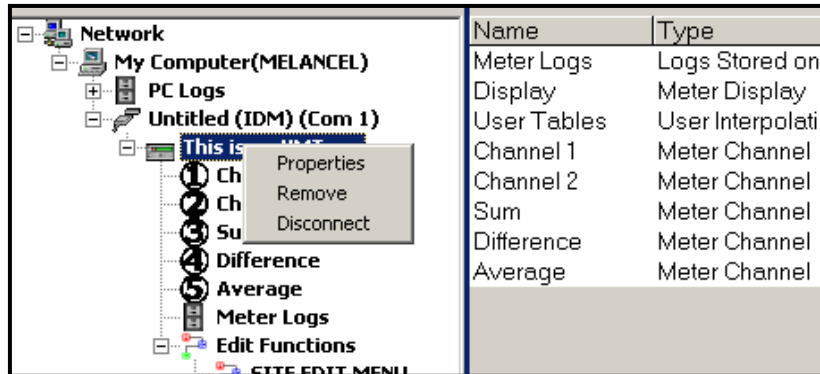

Figure 5: *Properties* Option in the *New Meter Browser*
2. Right-click on the highlighted XGM868i and click on the *Properties* option, as shown in Figure 5.